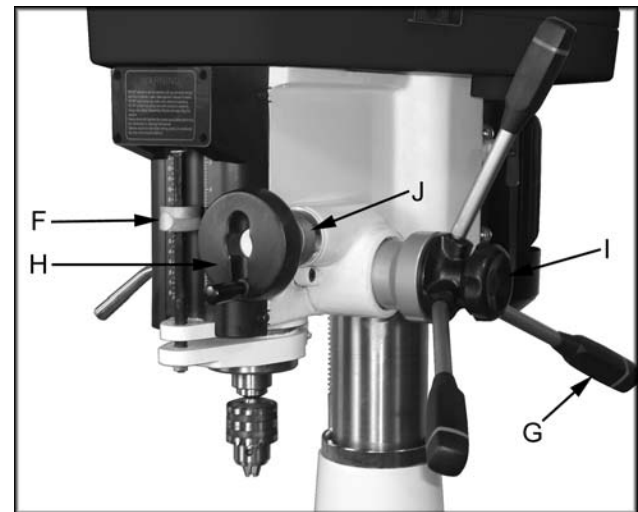

Fig. 7
*JMD-18*: (F, Fig. 7) located in the front. Push in the button on the front of the quick adjust stop and move to desired position.
### Downfeed Handles: (G, Fig. 7)
Located on the right side of the head casting. Counter-clockwise movement advances the quill toward the table. Return spring retracts the handles. **Note:** the knob (I, Fig. 7) must be loose for the downfeed handles to work.
### Fine Feed Hand Wheel: (H, Fig. 7)
Located on the front of the head casting. To activate, tighten the knob (I Fig. 7) and turn the power feed speed range dial (J, Fig. 7) to zero.